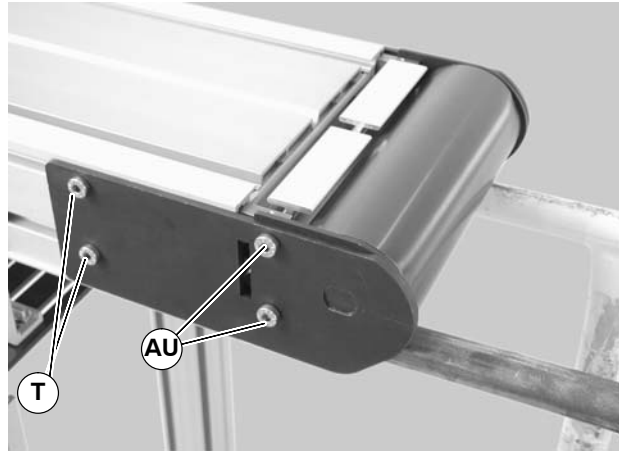

Figure 34
2. On one side of conveyor, loosen the two (2) back fastening screws (T of Figure 34) and remove two (2) front fastening screws (AU).